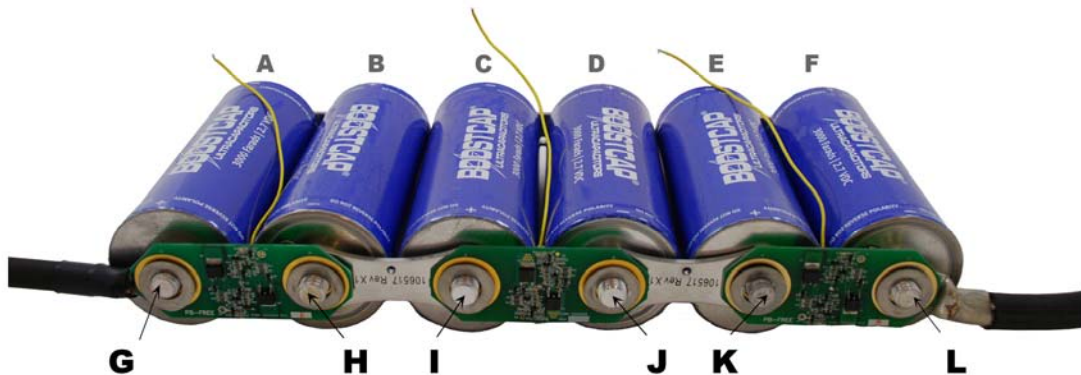

Figure 10
- 3.2.9 Place a wave washer over each threaded terminal on top of voltage management boards. (G – L, Figure 10)